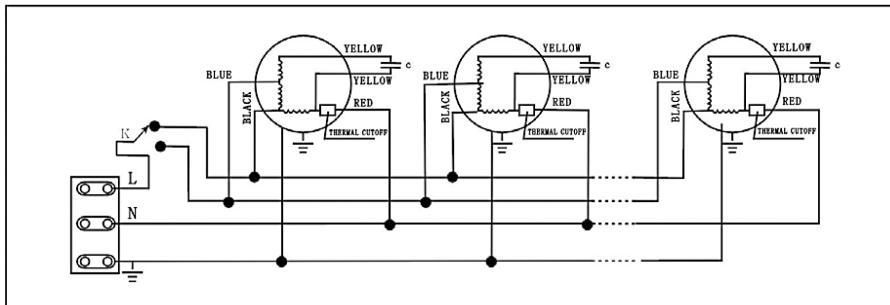

Fig. 10. Electric circuit for key control air curtains.
7.4.1 Electric circuit for key control air curtains is according to Fig.10.